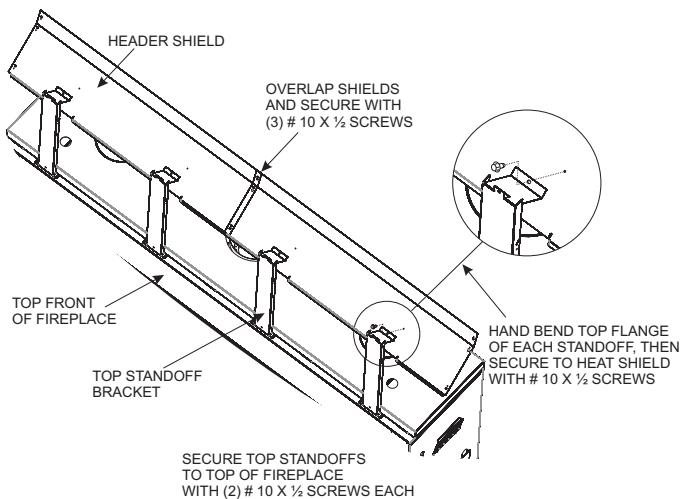
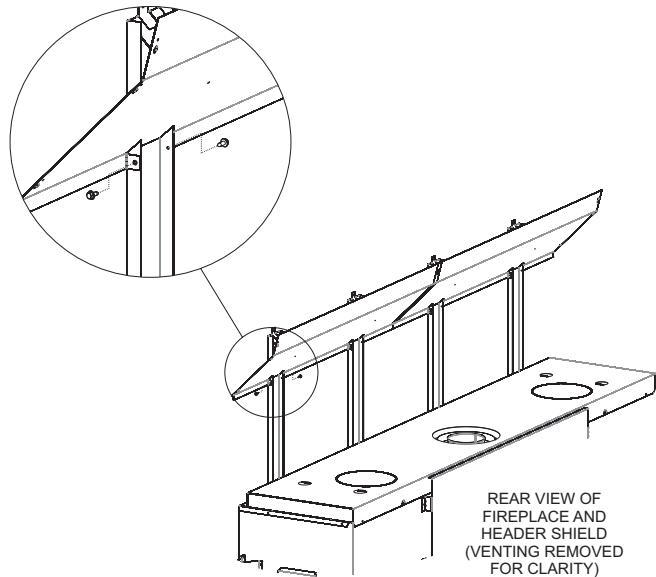

Figure 26
Figure 27
- Install the **first** Top Standoff and Header Shield assembly to the top of the fireplace and framing header. See Figure 26. Install the **second** Top Standoff and Header Shield assembly to the top of the fireplace and framing header. See Figure 27. Next, connect the overlapped ends of the two header shields, and secure them together using the provided (3) #10 x 1/2 Hex Head screws.